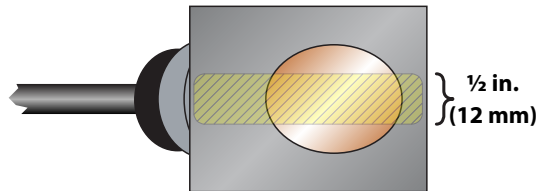

Figure 11: Application of couplant
For DTTR, DTTN, DTTL and DTTH transducers, place a single bead of couplant, approximately 1/2 inch (12 mm) thick, on the flat face of the transducer. See *Figure 11*. Couplant is provided with the transducers. Generally, a silicone-based grease is used as an acoustic couplant, but any good quality grease-like substance that is rated to not flow at the operating temperature of the pipe is acceptable. For pipe surface temperature over 130° F (55° C), use high temperature acoustic couplant such as Krytox® LVP (P.N. D002-2011-012). For installations that must be silicone free, use Molykote G-N couplant (P.N. D002-2011-009).
- For DTTR, DTTN, DTTL and DTTT transducers, place a single bead of couplant, approximately 1/2 inch (12 mm) thick, on the flat face of the transducer. See Figure 11. Generally, a silicone-based grease is used as an acoustic couplant, but any good quality grease-like substance that is rated to not flow at the operating temperature of the pipe is acceptable.
See *Figure 11* on page 20.